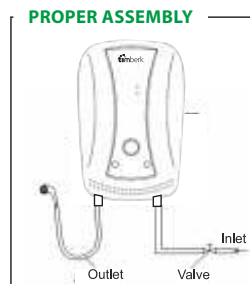

Fig. 4
- The water feed shutoff valve shall be installed upstream of the water heater inlet (Fig. 4).